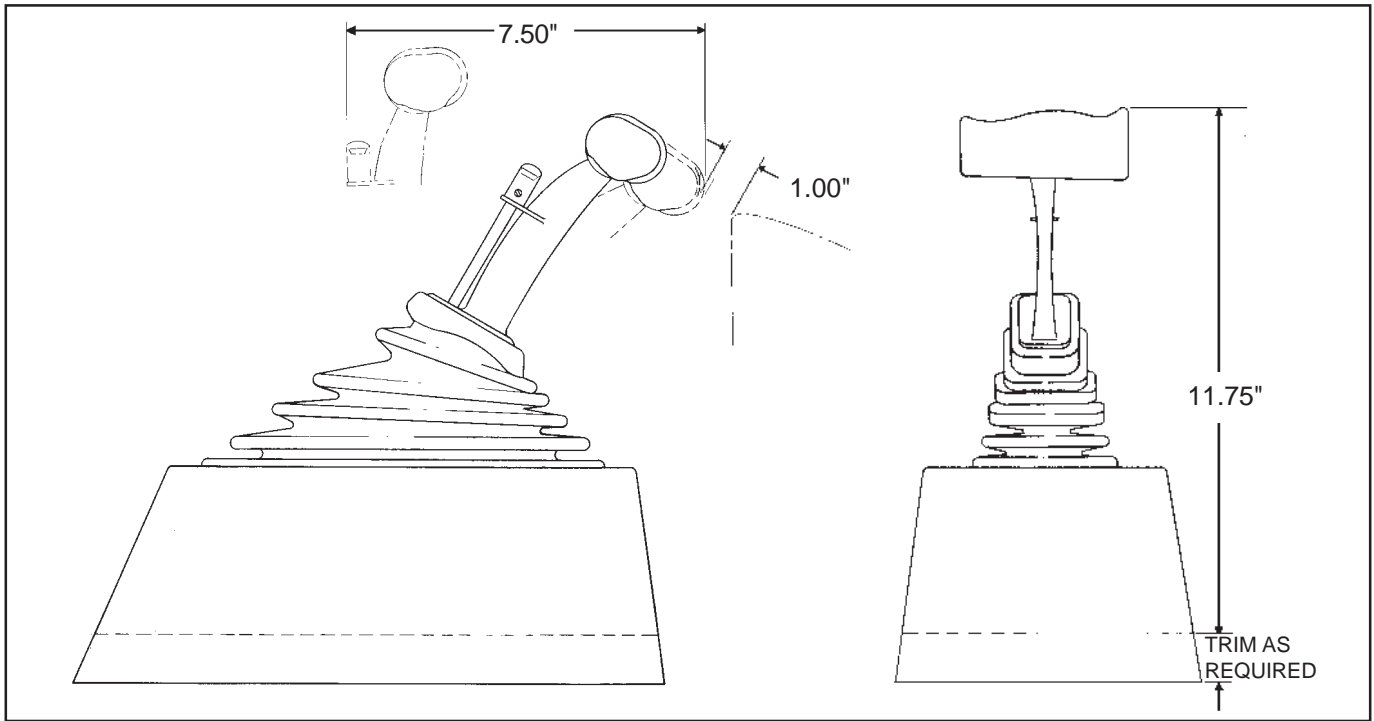

Figure 2
**STEP 2.** Pull the carpet away from the floorboard where the shifter is to be mounted. If the vehicle has a bench type seat, move the seat to the full forward position. Place the shifter on the floor with the stick shifted to the rearmost gate position. Locate the shifter for ease and convenience of operation (**See Figure 2**). Make sure